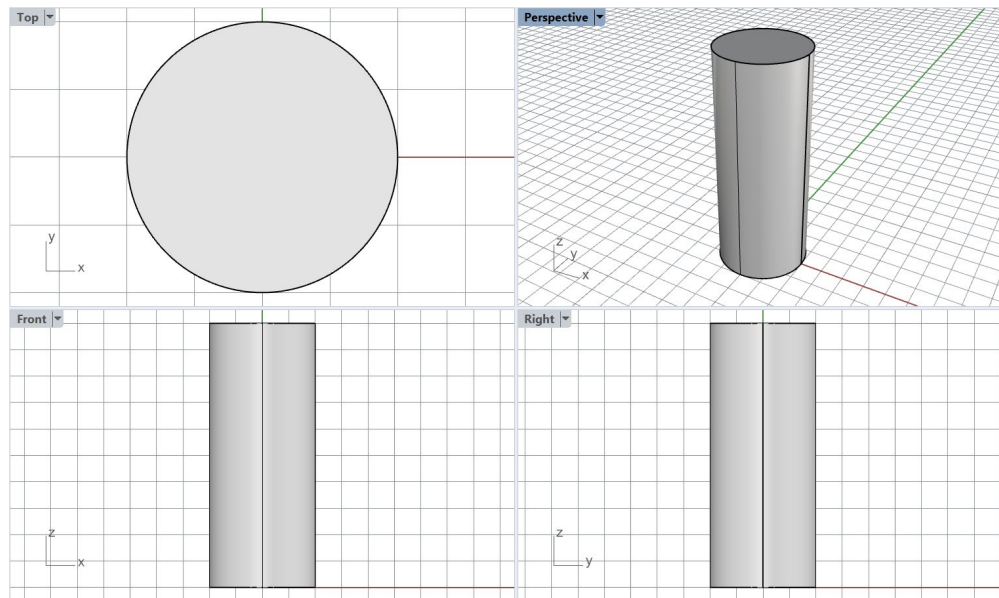

Figure 1: Solid representing a cylinder
3. Type the **_Cylinder** command or select the **Solid** → **Cylinder** menu item. Type **0** and press **Enter** to set the location of the center of the cylinder base at the origin. Next, set the radius of the base to **2**. Enter **10** for the height of the cylinder. Press **Alt+Ctrl+E** to zoom out all viewports to the extent of all objects (or navigate to **View** → **Zoom** → **Zoom Extents All**). This completes construction of the geometry for a simple vertical cylinder (Figure 1).